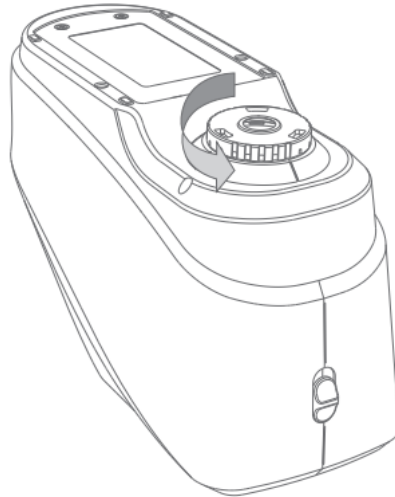

Figure 52 Measuring Aperture Assembling
Step 1, as shown in Figure 52, rotate the measuring aperture anticlockwise, remove the original aperture; Align the measuring aperture to be installed with the integrating sphere mounting hole and turn it clockwise. When there is a "click", it means that the measuring aperture and the integrating sphere button position are well matched, that is, the measuring aperture is installed.